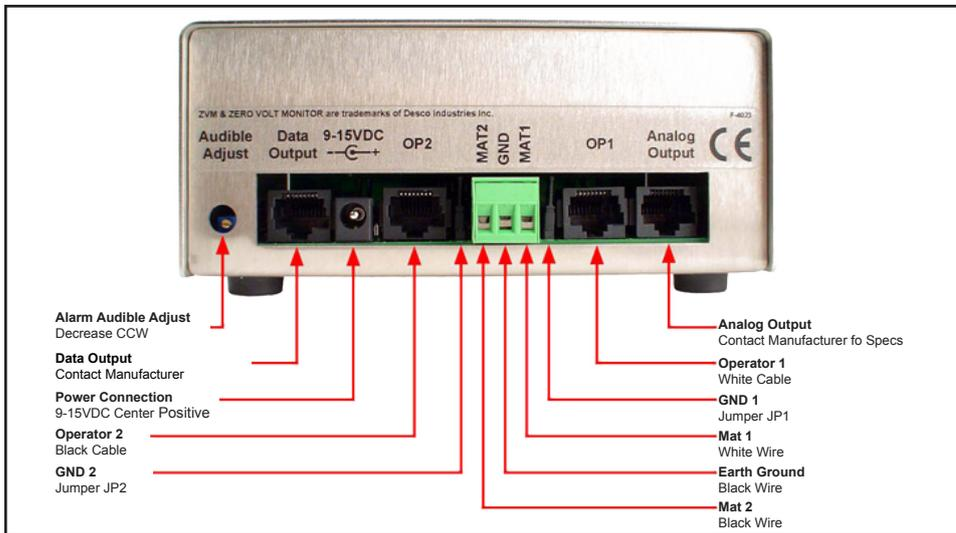

Figure 2. Rear View of the Zero Volt Monitor™
- V. Attach the tinned wire ends of the mat cords to their appropriate screw terminal block connection located at the rear of the unit (See Figures 2 and 3). The white cord is for OPERATOR 1 and the black cord is for OPERATOR 2.
- IX. Insert the modular plugs of each remote cord into their appropriate modular jacks located at the rear of the unit (See Figures 2 and 3).
- I. If the desired resistance is 3.5M ohms, jumpers JP1 (GND 1) and JP2 (GND2), located at the rear of the unit, (See Figure 2) need to be on one pin.
- I. If the desired resistance is high (10k ohms - 3.5M ohms), jumpers JP1 (GND 1) and JP2 (GND 2), located at the rear of the unit, (See Figure 2) need to be on one pin.
- I. If the desired resistance is low (< 1k ohms), jumpers JP1 (GND 1) and JP2 (GND 2), located at the rear of the unit, (See Figure 2) need to be on both pins.